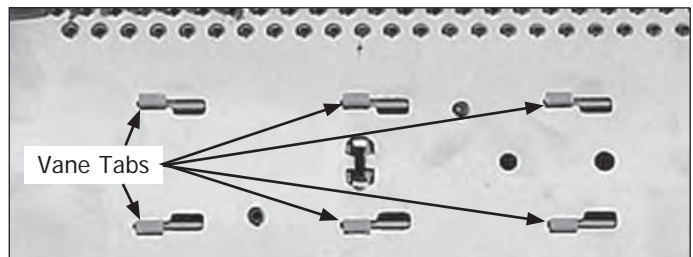

Figure 4-110.
3. Slide vane towards the door opening to release the (6) tabs and push on side of vane to remove. (See Figure 4-110)